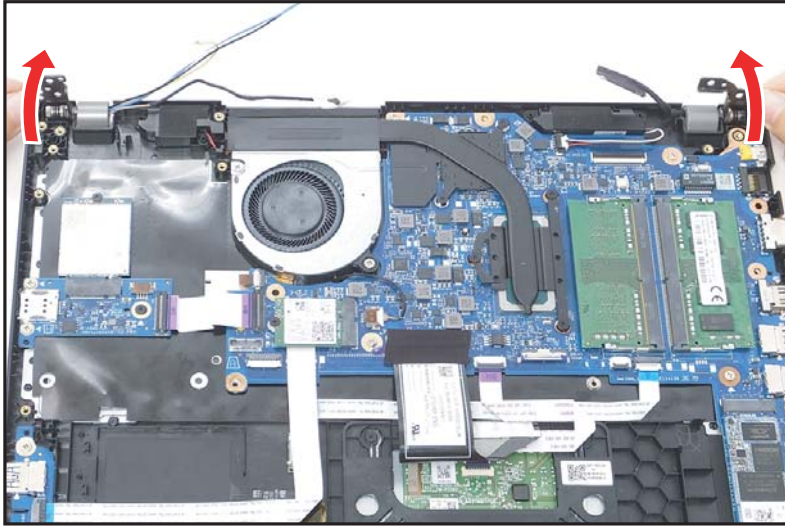

Figure 1-37. LCD Module Removal
12. Close the top assembly and lift both LCD hinges until they are fully extended (Figure 1-37).